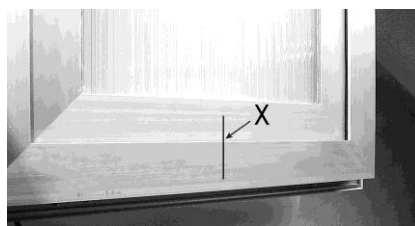

Figure 2
- A. Trace centrepoint X in pencil onto the window frame (Fig.2) or fairly divide it in case of use of more Syncro.